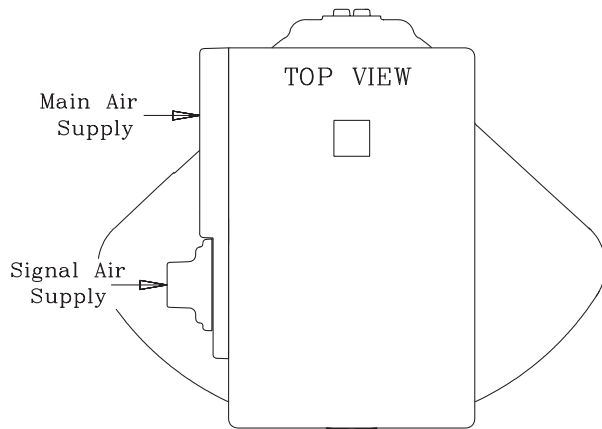

Figure 1. Mid Travel Orientation of Actuator Square and Positioner Box
2.1.1 Move actuator vane to mid travel position, with its output square as shown in Figure 1. This is advisable to prevent subsequent error in orientating positioner coupling. (This is not necessary with spring return actuators as there can be no confusion with square orientation)
2.1.3 Bolt the positioner body to the actuator in the orientation shown in figure 1 taking care that the two O' rings are in place to seal the ports to the actuator (place a small amount of grease onto the O' rings to keep them in place) and that the actuator shaft is centred in the body.